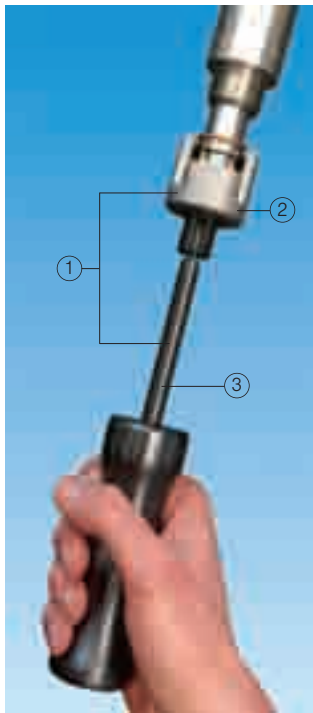

Fig. 1: Disassembly set
2. Nozzle jets, half of them turned outwards in opposite directions. This directs the spray water to both sides (see Fig. 1).
So that the correct alignment of the nozzle mouthpiece (15° offset angle to the header's longitudinal axis - see Fig. 1) is guaranteed, the welding nipple on the spray header must be positioned so that its flat inner surfaces are parallel to the header's longitudinal axis. This is best achieved with the alignment aid supplied as an accessory (Fig. 2, Order No. 064.490.01).